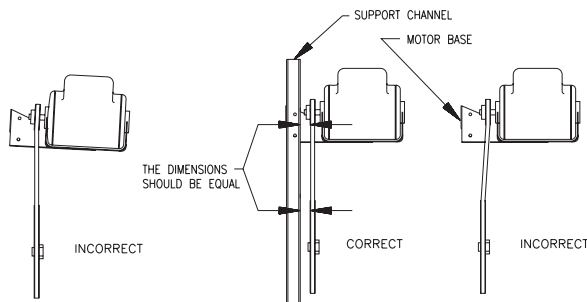

Figure 2
- Mount the motor sheave to the motor so that the pulleys are aligned properly when the motor base is perpendicular to the support angles as shown in Figure 2.
- Install the belt as shown in Figure 2 and align the motor sheave and fan sheave using a straight edge to insure alignment (see belt alignment in Figure 2).
- Tighten the belt by loosening the bolts holding the motor base to the support angles and moving the motor base toward the top of the fan. Tighten the motor and motor base mounting bolts. Re-check the belt and sheave alignment (See Figure 2).
- Before starting, check all fasteners for tightness. Turn the propeller by hand to make sure it is in alignment with the orifice and the fan blades do not strike the orifice or support angles. Recheck the drive alignment (see Figure 2).